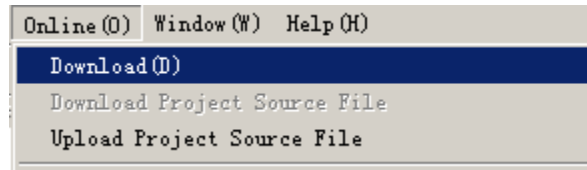

Figure 4-28 Select the Download Command
Step 3. Set the key switch in the CPU panel as **PRG** or **REM**, and Select [Online]-[Download] in the menu bar, as shown in Figure 4-28.